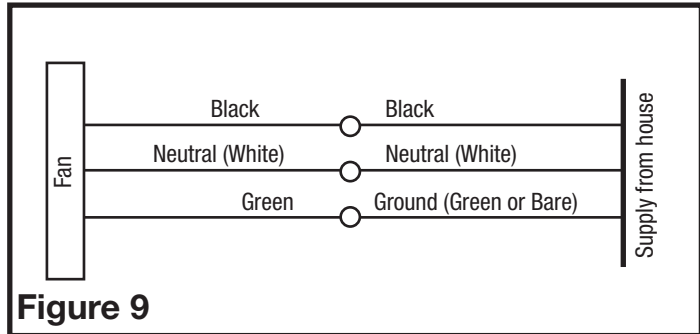

Figure 9
3. For two speed fans wired for continuous ventilation, connect the White wire of the fan to the White (Neutral) wire from the power source. Connect the ground wire from the house to the green wire from the fan housing. Connect the Black wire of the fan to the Black wire (Hot) from the power source. The fan will operate on low speed continuously and boost to high speed when motion is detected. Using a properly grounded standard duplex toggle switch (such as Leviton 5224-2W, not included) connect the black wire from the supply to one side of the top and bottom switch. A manual override switch (not included) can be used to provide a manual fan Off function (Figure 9).